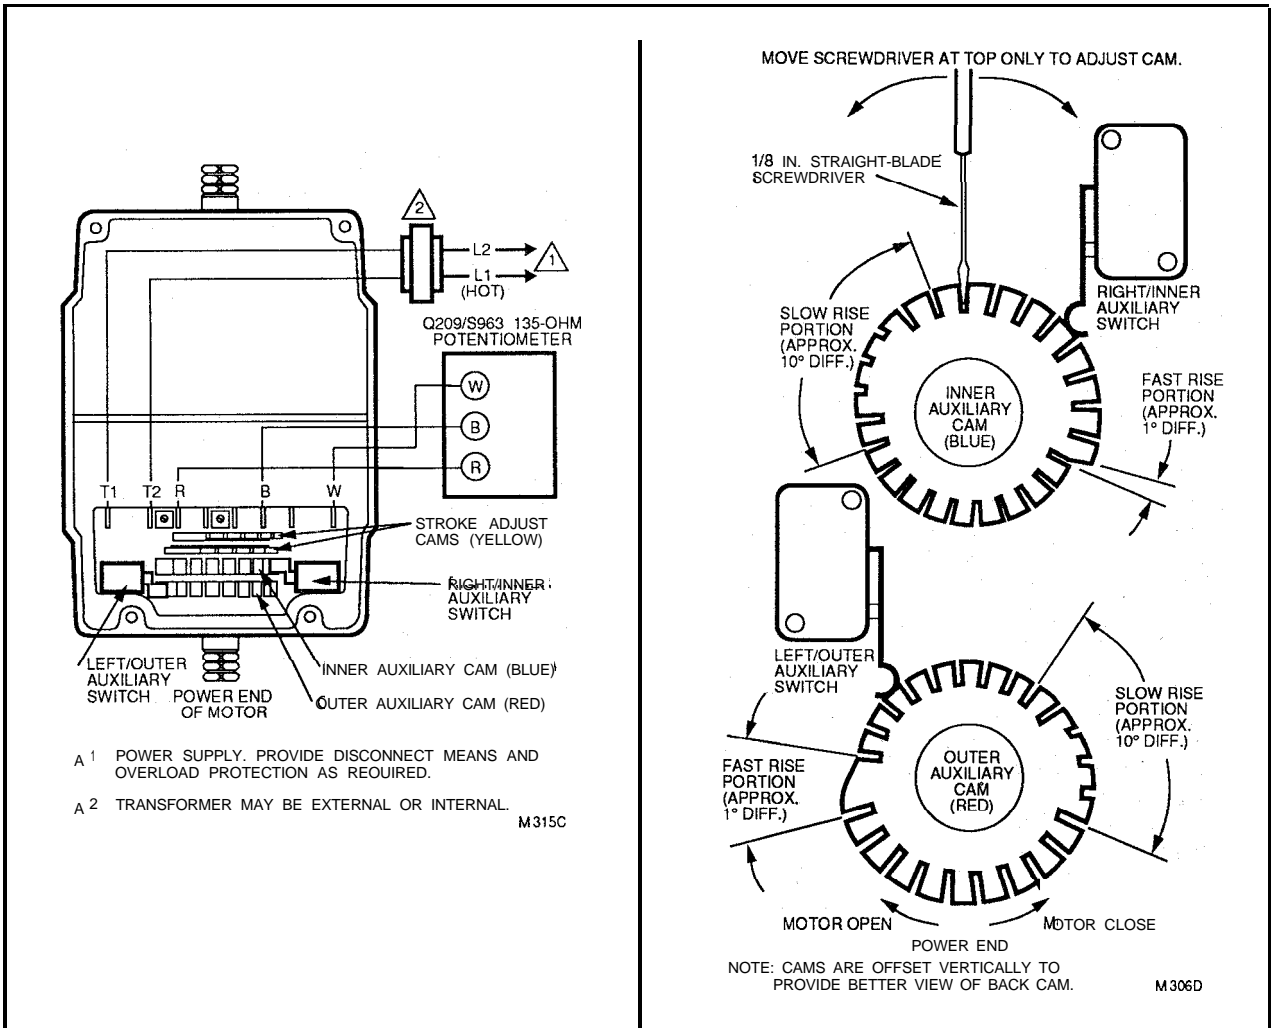

FIG. 9-AUXILIARY SWITCH ADJUSTMENT SETUP.
^bSee Fig. 9
AUXILIARY SWITCH SETTING PROCEDURE (Fig. 9)
2. Disconnect controller from motor and connect 135 ohm manual potentiometer with R-W-B terminals on pot connected to corresponding terminals on motor (Fig. 9).